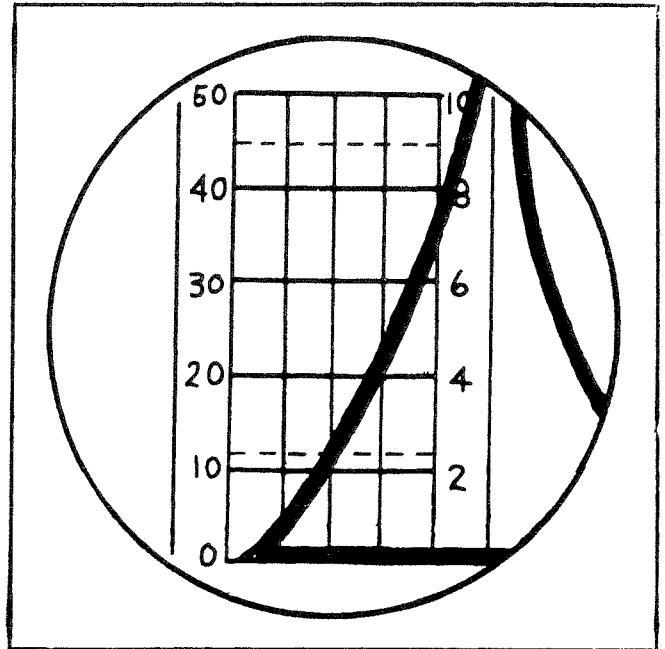

Figure 2-11. Indicator Screen, Power Output Signal
(7) Press the momentary-contact switch on the test indicator marked "PUSH". The transmitter signal should now appear on the indicator screen approximately as shown in figure 2-11. The power output is determined by the position of the lower left tip of the signal pattern. If this tip extends to, or beyond, one and one-half divisions to the left of the center line on the indicator screen, the power output may be considered to be above the minimum allowable value of 0.5 kilowatt. These are visual comparison checks and can not be read in terms of power output in watts.